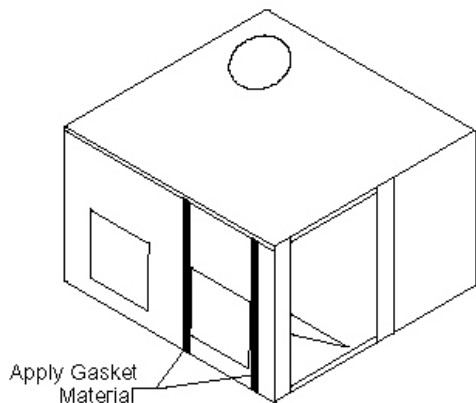

Figure 4: Installing Gasket
7. Install the gasket material to the duct panel on each side of the return air opening as shown in Figure 4.